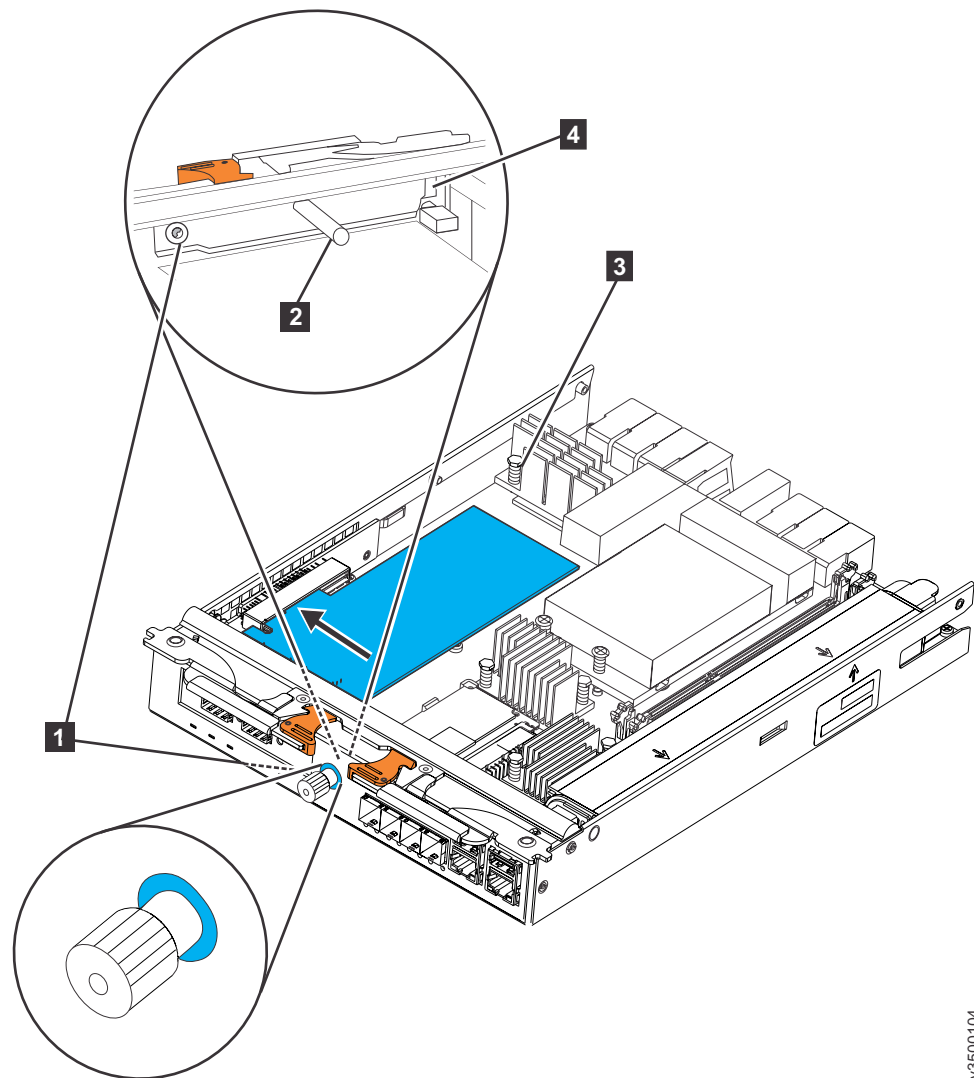

Figure 15. Installing 8 Gbps Fibre Channel 4-port host interface card
2. Loosen the retaining thumbscrew **1** as shown in Figure 15.
5. Insert the host interface card **3** into the canister as shown in Figure 15